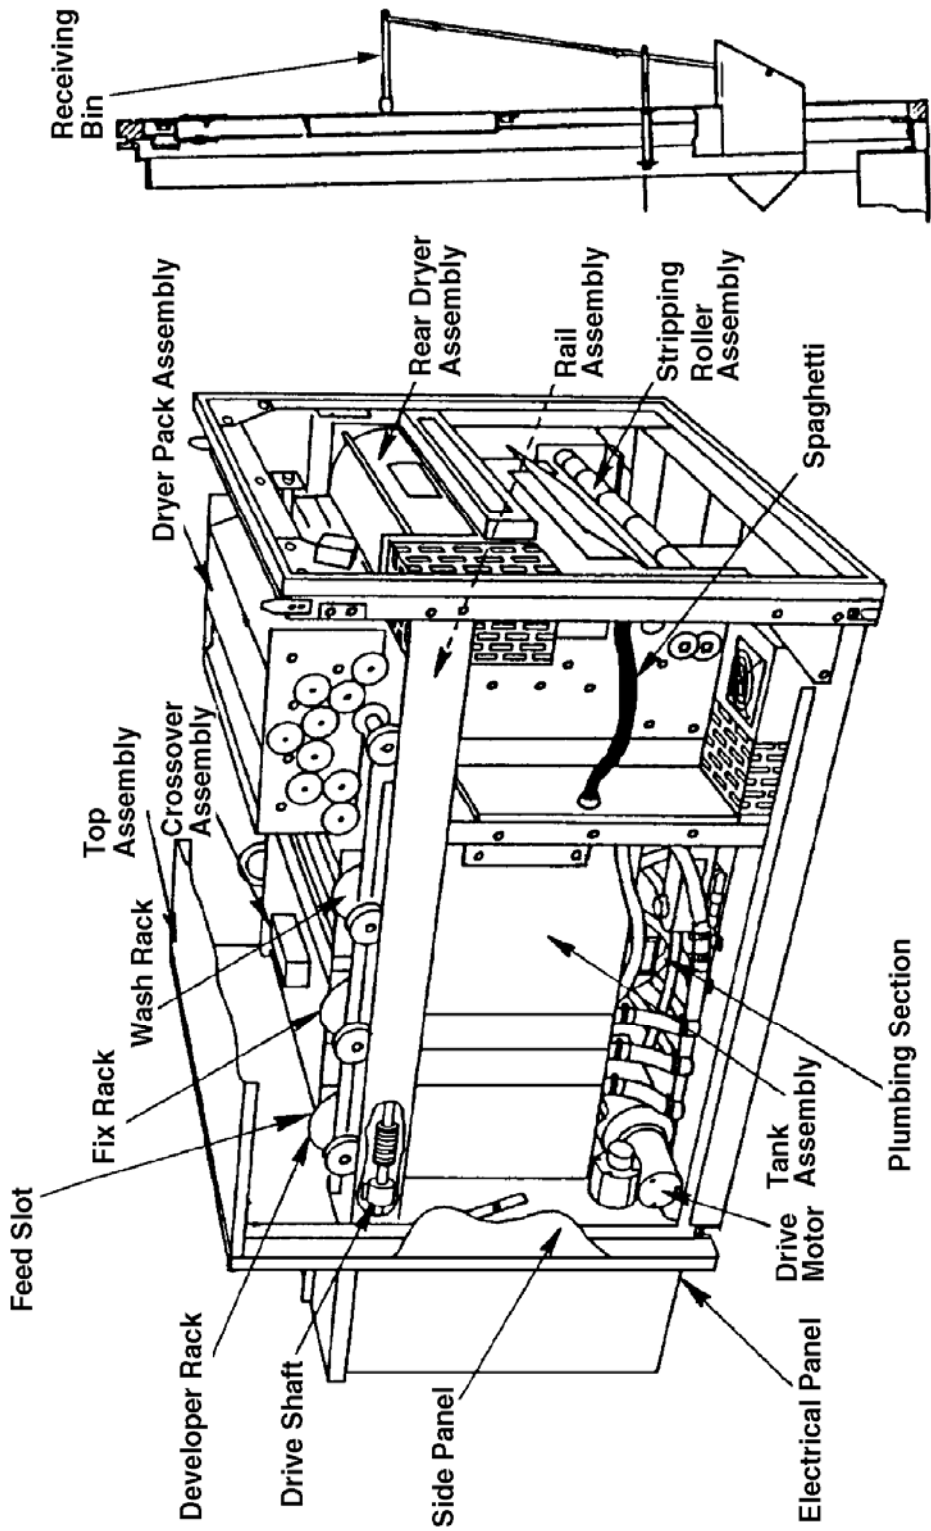

Figure 1-1. External view AFP 14-X3 X-ray Film Processor.
(1) The operator cleans the processor as a part of the daily shutdown procedure. He cleans the developer rollers (located in the developer rack), top cover, side panels, feed tray, and receiving bin. See figure 1-1. To do this the operator performs the following shutdown procedure: